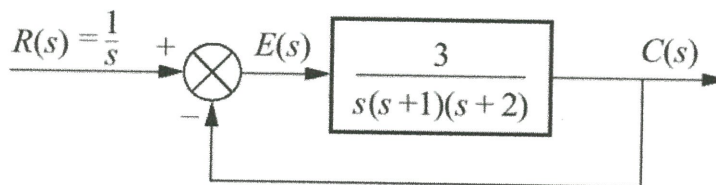

FIGURE Q3(b)
- (b) Determine the stability of the system shown in **Figure Q3(b)** with aid of pole-zero plot. (11 marks)